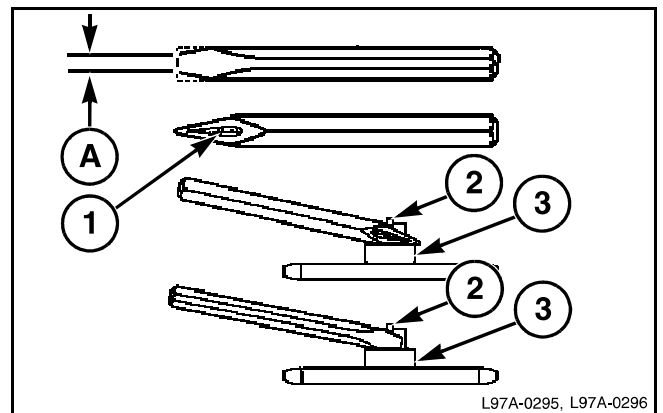

FIG. 13
FIG. 13: For locations with little access, make a special tool to remove gib keys. Use a 25 mm (1 in) wide chisel and grind the width of the chisel (A) to 16 mm (5/8 in). Grind a slot (1) in each side of the head of the chisel. The slot is used to keep the chisel from slipping.